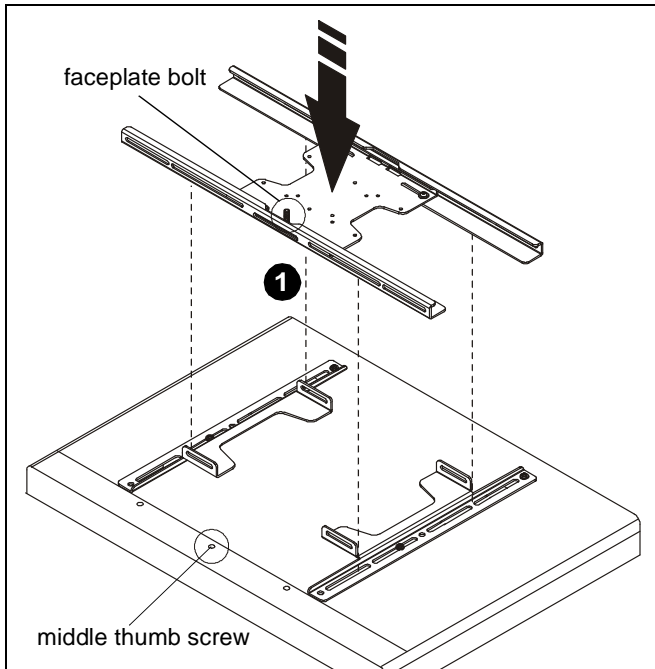
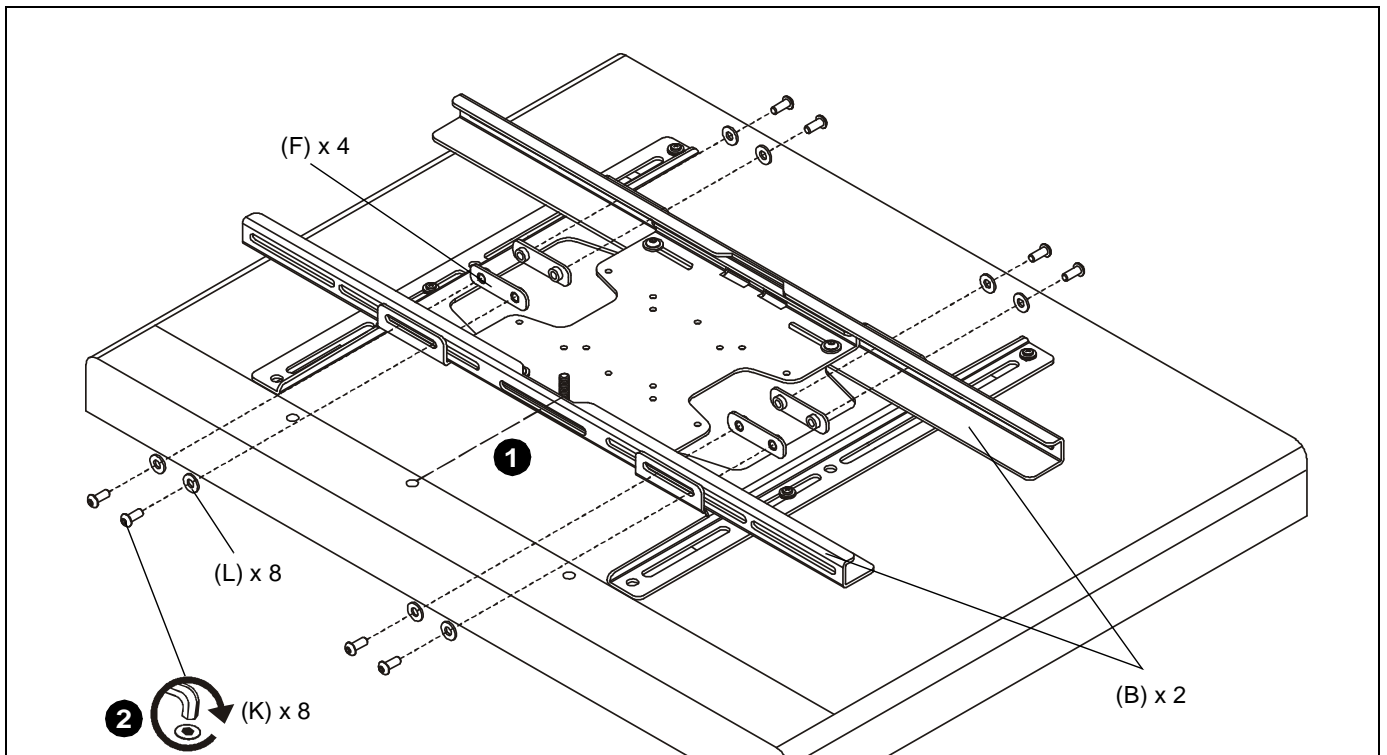

Figure 8
Figure 9
1. Align faceplate brackets (B) with interface brackets (C), aligning the center of display with the faceplate bolt. (See Figure 8) and (See Figure 9)
2. Using 5/32" hex key (H), install eight 1/4 x 5/8" screws (K) through eight 1/4" washers (L) and faceplate brackets (B) into four backing plates (F). Tighten securely. (See Figure 9)